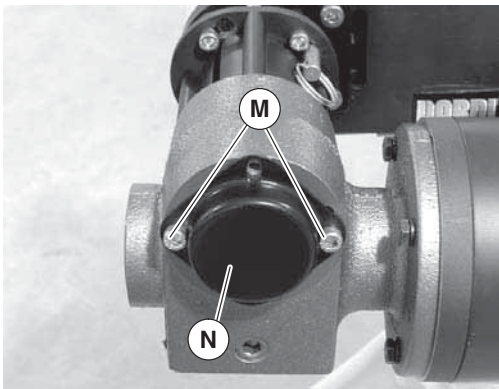

Figure 8
1. Remove two (2) screws (Figure 8, item M) and remove drive shaft cover (N).
- Install cover (Figure 8, item N) and tighten two (2) screws (M) to 50 in-lbs (5.6 N-m).